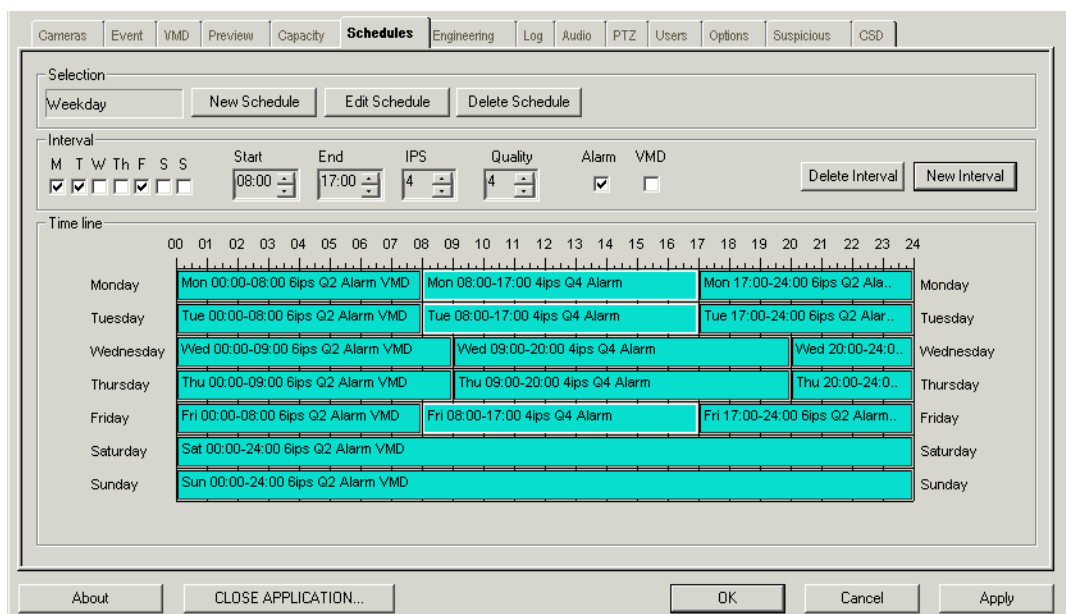

Figure 7-1: Example recording schedule
Figure 7-1 below shows an example of a recording schedules that could be applied to cameras on your premises.
1. Open the **Schedules** tab of the Configuration Console as shown in Figure 7-1.